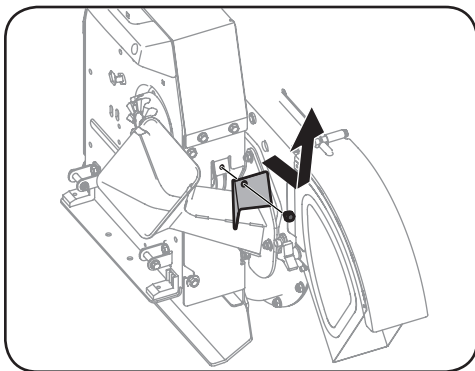

Figure 5-8
- Remove the cover bracket from the frame by removing the hex bolt which secures it. See Figure 5-8.